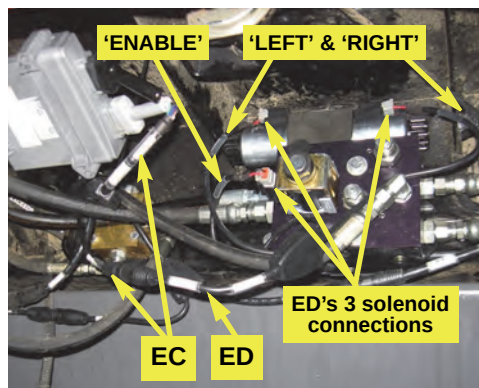

Figure 2c: Valve cable from steering controller to left, right and enable solenoids
- c. Connect valve cable **ED** to **EC**'s connector labeled 'VALVE'. Connect **ED**'s three 2-pin connectors (labeled 'LEFT', 'RIGHT' and 'ENABLE') to the enable valve and two solenoid valves on the hydraulic steering block (Figure 2c).